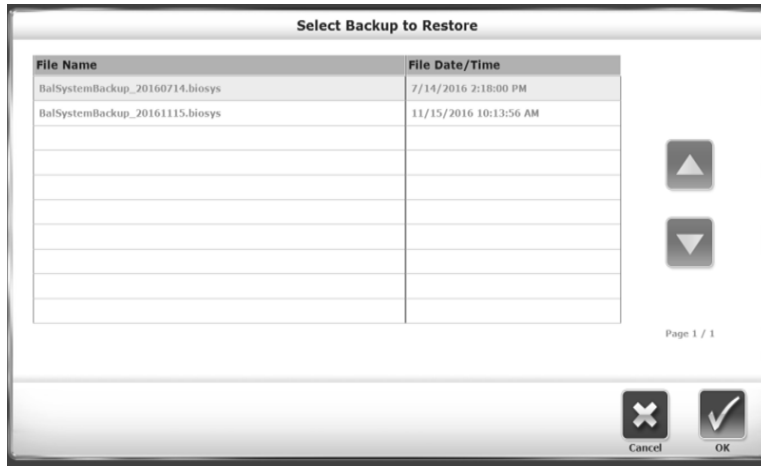

Figure 9.1. Select Backup to Restore Screen.
2. Touch <Restore from USB>. A list of files is displayed. The most recent file is in the bottom row (see Figure 9.1).